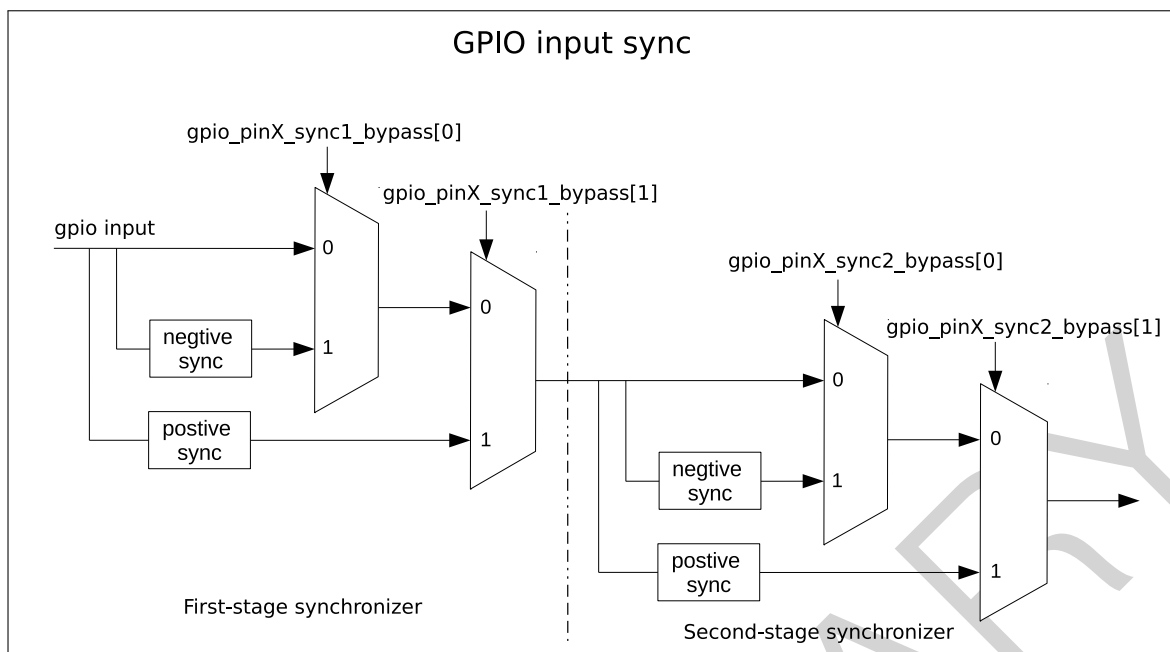

Figure 5-3. GPIO Input Synchronized on APB Clock Rising Edge or on Falling Edge
Figure 5-3 shows the functionality of GPIO SYNC. In the figure, negative sync and positive sync mean GPIO input is synchronized on APB clock falling edge and on APB clock rising edge, respectively.
- Set `GPIO_PIN x _SYNC1_BYPASS` to enable input signal synchronized on rising edge or on falling edge in the first clock, see Figure 5-3.
- Set `GPIO_PIN x _SYNC2_BYPASS` to enable input signal synchronized on rising edge or on falling edge in the second clock, see Figure 5-3.